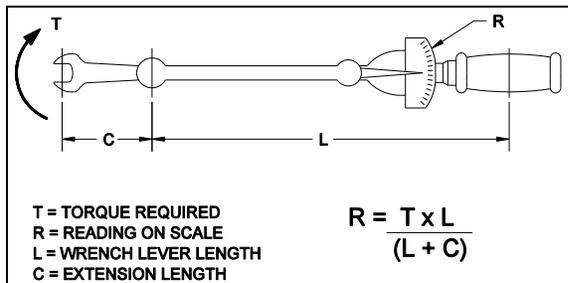

FIGURE 21 : TORQUE WRENCH FORMULA
**Caution:** Make sure all keyless bushings are tightened to 125 lb-ft before unlocking the pins or moving the slide-out. A lower torque value may cause the bushing to slip on the shaft, and a higher torque value may break the bushing. The torque may need to be recalculated depending of the wrench size. Refer to figure 21 for wrench size compensation.
3. On the upper shaft, tighten the left-hand side keyless bushing to 125 lb-ft (refer to figure 21 for wrench size compensation). Make sure the pinion is centered and fits well in its rack to eliminate any possible backlash. Take note that when the keyless bushing nut is tightened, the pinion moves about 1/16" to 3/32" toward the slide-out center.
4. On the lower shaft, tighten the left-hand side keyless bushing to 125 lb-ft (refer to figure 21 for wrench size compensation).
4. On the lower shaft, tighten the right-hand side keyless bushing to 125 lb-ft (refer to figure 21 for wrench size compensation).